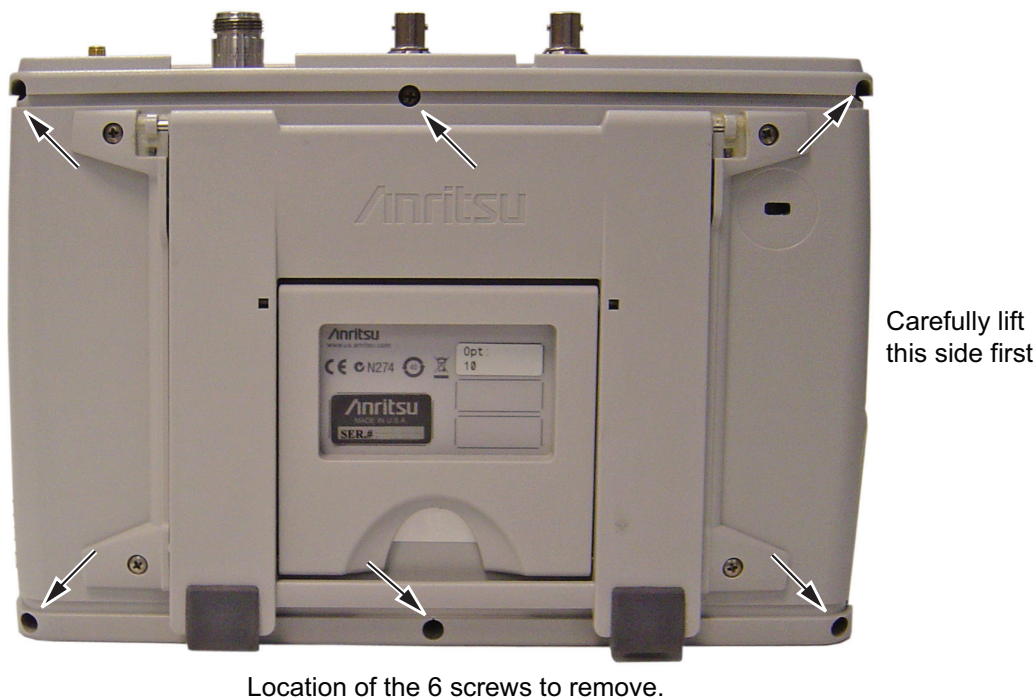

Figure 7-2. Remove the Four Screws
- Use a Phillips screwdriver to remove the six screws securing the two halves of the S412E case together (Figure 7-2).